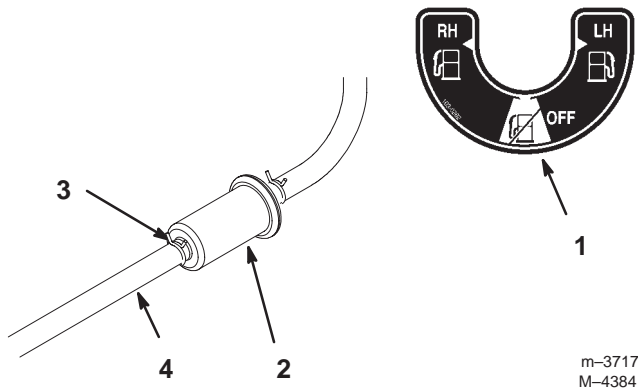

Figure 47
6. Install a new filter and move the hose clamps close to the filter (Fig. 47).
2. Close the fuel shut-off valve (Fig. 47).
3. Loosen the hose clamp at the fuel filter and slide it up the fuel line away from the fuel filter (Fig. 47).
4. Pull the fuel line off of the fuel filter (Fig. 47).
6. Install the fuel line onto the fuel filter. Slide the hose clamp close to the fuel filter to secure the fuel line (Fig. 47).